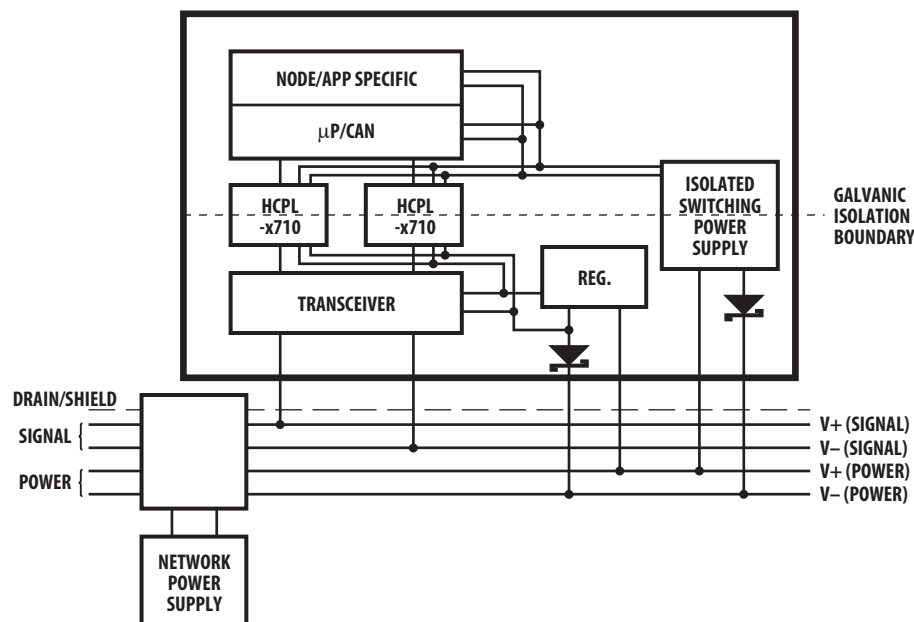
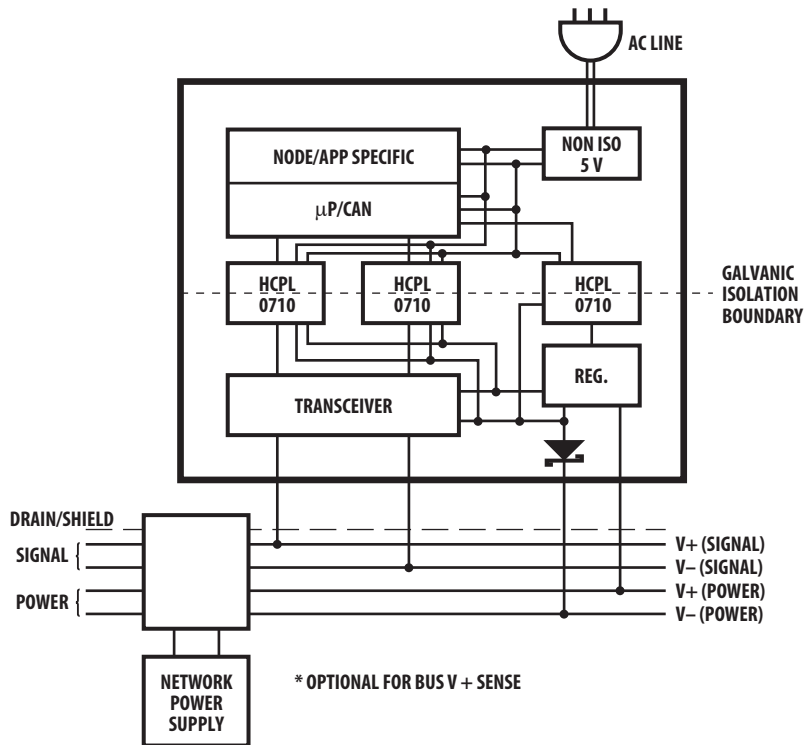

Figure 19. Isolated node powered by the network
Figure 20. Isolated node with transceiver powered by the network
With transmission rates up to 1 Mbit/s, both DeviceNet and SDS are based upon the same broadcast-oriented, communications protocol — the Controller Area Network (CAN). Three types of isolated nodes are recommended for use on these networks: Isolated Node Powered by the Network (Figure 19), Isolated Node with Transceiver Powered by the Network (Figure 20), and Isolated Node Providing Power to the Network (Figure 21).
This type of node is very flexible and as can be seen in Figure 19, is regarded as “isolated” because not all of its components have the same ground reference. Yet, all components are still powered by the network. This node contains two regulators: one is isolated and powers the CAN controller, node-specific application and isolated (node) side of the two optocouplers while the other is non-isolated. The non-isolated regulator supplies the transceiver and the non-isolated (network) half of the two optocouplers.
Figure 20 shows a node powered by both the network and another source. In this case, the transceiver and isolated (network) side of the two optocouplers are powered by the network. The rest of the node is powered by the AC line which is very beneficial when an application requires a significant amount of power. This method is also desirable as it does not heavily load the network.
It is suggested that the Bus V+ sense block shown in Figure 20 be implemented. A locally powered node with an un-powered isolated Physical Layer will accumulate errors and become bus-off if it attempts to transmit. The Bus V+ sense signal would be used to change the BOI attribute of the DeviceNet Object to the “auto-reset” (01) value. Refer to Volume 1, Section 5.5.3. This would cause the node to continually reset until bus power was detected. Once power was detected, the BOI attribute would be returned to the “hold in bus-off” (00) value. The BOI attribute should not be left in the “auto-reset” (01) value since this defeats the jabber protection capability of the CAN error confinement. Any inexpensive low frequency optical isolator can be used to implement this feature.